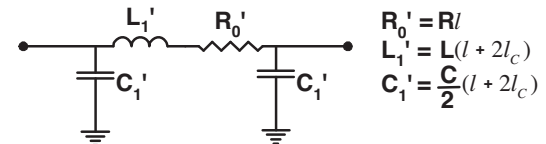

Figure 13b: Equivalent circuit of chip resistor
The equivalent circuit then becomes that shown in **Figure 13b**. (We neglect, as earlier,  $G$  compared to  $\omega C$ .) Note that the circuit contains both inductance and capacitance parasitics, though most vendors electrically characterize a chip resistor only by the latter.  $C_1'$  is then given by half the value calculated in (14), while  $L_1'$  is given by